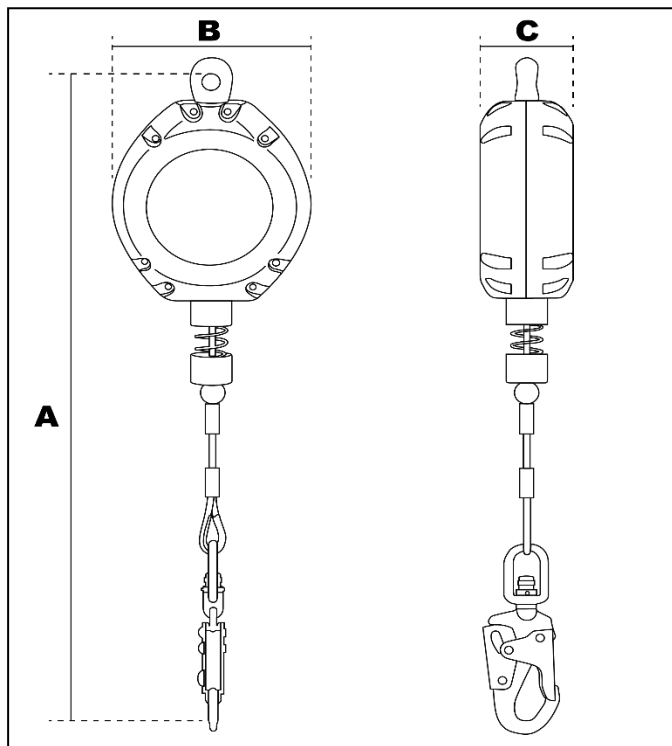

Figure 2.1: Cable self-retracting lanyard
3.2 TYPES OF SRD: Refer to Appendix A for unit specifications. Figures 2.1, 2.2 and 2.3 below indicate the types of models covered by this manual. They include:
- **SELF RETRACTING LANYARDS:** Are suitable for overhead anchorage (ie: from directly above the user's head to as low as the dorsal d-ring on the user's FBH), where the lifeline remains generally vertical during use, and where no free fall is possible. Refer to Figure 2.1 below.
Table 1A: Unit Specifications Refer to Figures 2.1 and 2.2 for definitions of A, B, and C